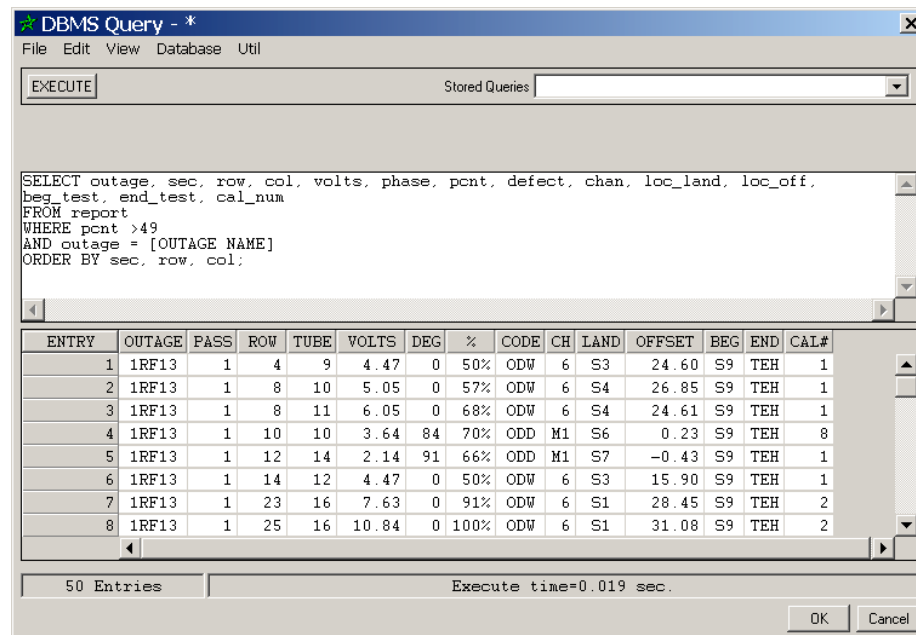

Figure 16-6. Executing a Query That Returns Specific Inspection Results
STEP 6: As shown in Figure 16-6, a list of 50 entries should appear in the lower section of the **Query** dialog.
- STEP 3:** Click **OK** on the **Parameters** dialog if it appears. The retrieved records should now appear in the lower section of the **Query** dialog as shown previously in Figure 16-6.